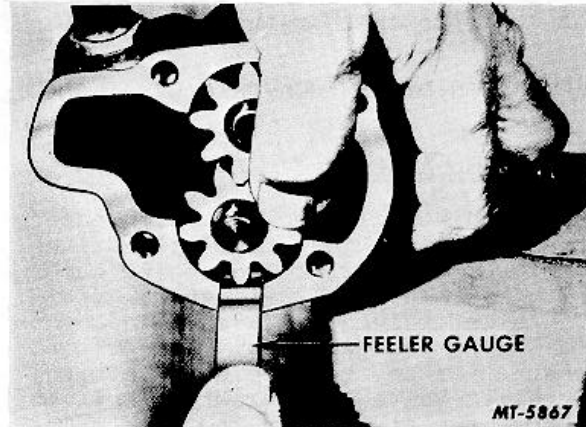

Fig. 106. Measuring Pump Gear-to-Body Clearance
3. While holding the gears in this manner, measure the clearance between the outside diameter of the gear and the bore of the housing (Fig. 106), see SPECIFICATIONS. If clearance is excessive, obtain new parts.